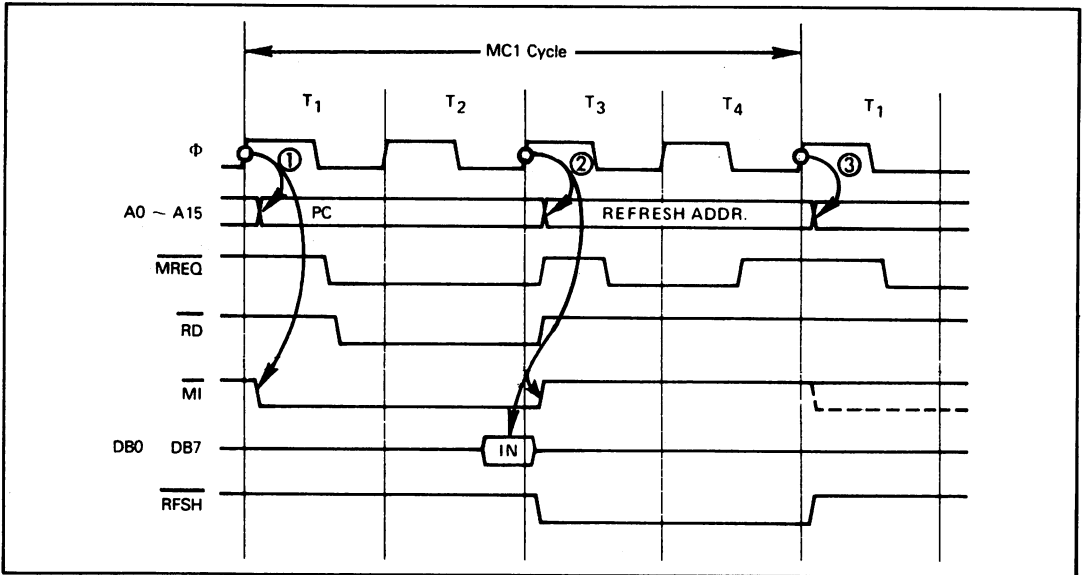

Figure 7-5. Z80 Instruction Fetch Sequence
**Let us begin by looking at an instruction fetch.** Timing is illustrated in Figure 7-5. Look at the instruction fetch timing in the 8080A chapter to obtain an immediate comparison of the Z80 and the 8080A.
Referring to Figure 7-5, note that the instruction fetch cycle is identified by  $\overline{M1}$  output low during  $T_1$  and  $T_2$  (①). Since there is no status on the Data Bus to worry about, the Program Counter contents are output immediately on the Address Bus and stay stable for the duration of  $T_1$  and  $T_2$ .